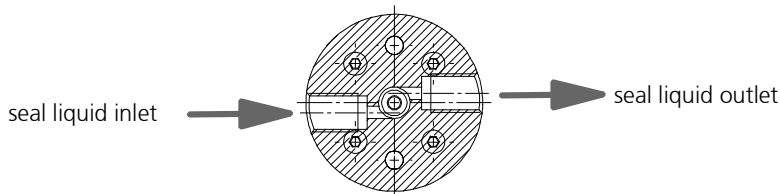

Figure 8 Sectional view of the fluidic seal module
The filling procedure through the port has to be realized carefully. The ports have a 1/4"-28 UNF thread. They are displaced to realize a better degassing of the seal chamber also in a horizontal direction. The filling of the sealing liquid starts with the lower level port (see Figure 8). The filling of the fluidic seal module continues until no bubbles can be seen on the outlet port side. When the liquid is free of bubbles the outlet port has to be closed by vent screw. To fill the chamber a cartridge or syringe with an appropriate thread 1/4"-28 UNF can be used.
1. Remove the lower screw plug from the barrier seal module of the mzs®-pump (see Figure 8).
The connection set for the barrier seal is mounted on the lower side of the barrier seal module. (see Figure 8).